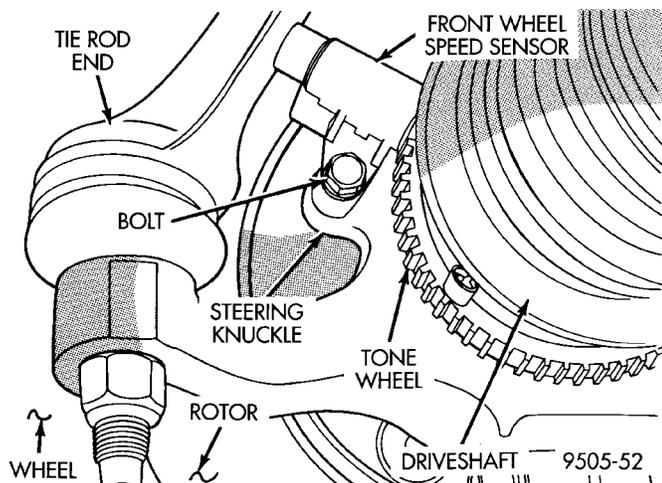

Fig. 31 Front Wheel Speed Sensor Attaching Bolt
(4) Remove wheel speed sensor head to steering knuckle attaching bolt (Fig. 31).
(3) Install wheel speed sensor to steering knuckle attaching screw (Fig. 31). Torque the attaching screw to 7 N-m (60 in. lbs.)
(4) Install the wheel and tire assembly on vehicle.
(5) Road test vehicle to ensure proper operation of the base and ABS systems.